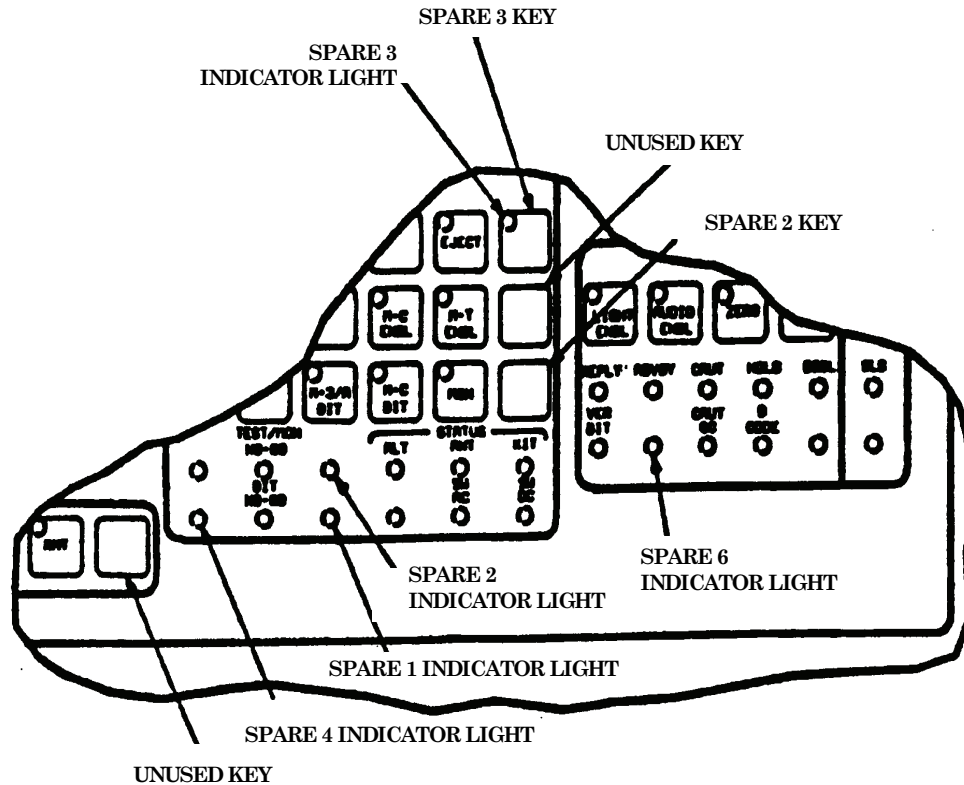

Figure 1. Spare indicator location.
³Refer to figure 1 for location.
²Refer to figure 1 for location.
(22) Connect multimeter (ac mode) to **LAMP VOLTAGE 5 VAC** test jacks on calibration on calibration test fixture.
(23) Set TI **PANEL LIGHTS** switch to **5 VOLTS**. Multimeter will indicate between 4.77 and 5.83 V ac.
(24) Move multimeter hi lead from **LAMP VOLTAGE 5 VAC** jack and connect to **LAMP VOLTAGE 28 VAC** test jack on calibration test fixture. Set TI **PANEL LIGHTS** switch to **28 VOLT**. Multimeter will indicate between 25.92 and 31.68 V ac.
(25) Set **S9** switch on calibration test fixture to **ON**. TI SPARE 6 INDICATOR LIGHT (fig. 1) on **MODE 4** keyboard will light.
(26) Set **S9** switch on calibration test fixture to **OFF**. TI SPARE 6 INDICATOR LIGHT (fig. 1) on **MODE 4** keyboard will be off.
(27) Set **S10** switch on calibration test fixture to **ON**. TI SPARE 4 INDICATOR LIGHT (fig. 1) on **TRANSPONDER CONTROL** keyboard will light.
(28) Set **S10** switch on calibration test fixture to **OFF**. TI SPARE 4 INDICATOR LIGHT (fig. 1) on **TRANSPONDER CONTROL** keyboard will be off.
(29) Return all switches on calibration test fixture to **OFF** position.